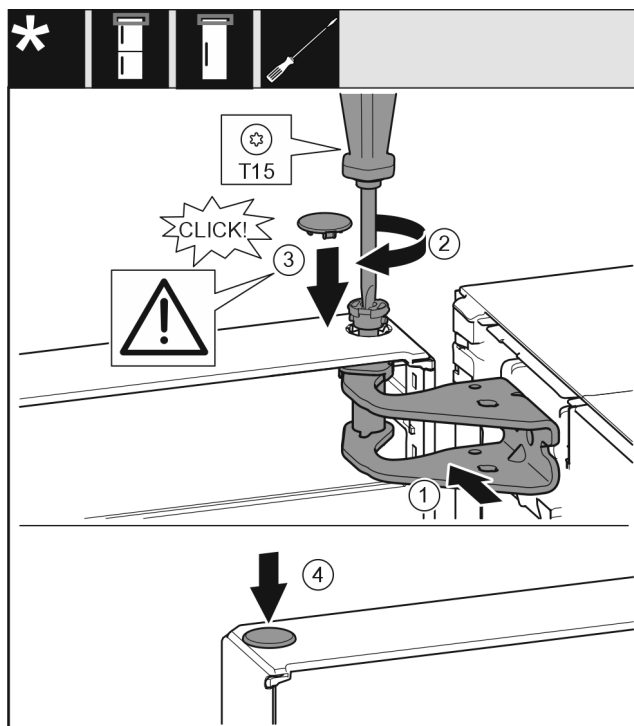

Fig. 23
- Align the top door with the opening in the swap bearing block *Fig. 23 (1)*.
- Insert the bolt *Fig. 23 (2)* and use screwdriver to tighten it.
- Insert the cover *Fig. 23 (3)*.
- Check that the cover *Fig. 23 (3)* is resting on the door.
- Insert the cover *Fig. 23 (4)*.